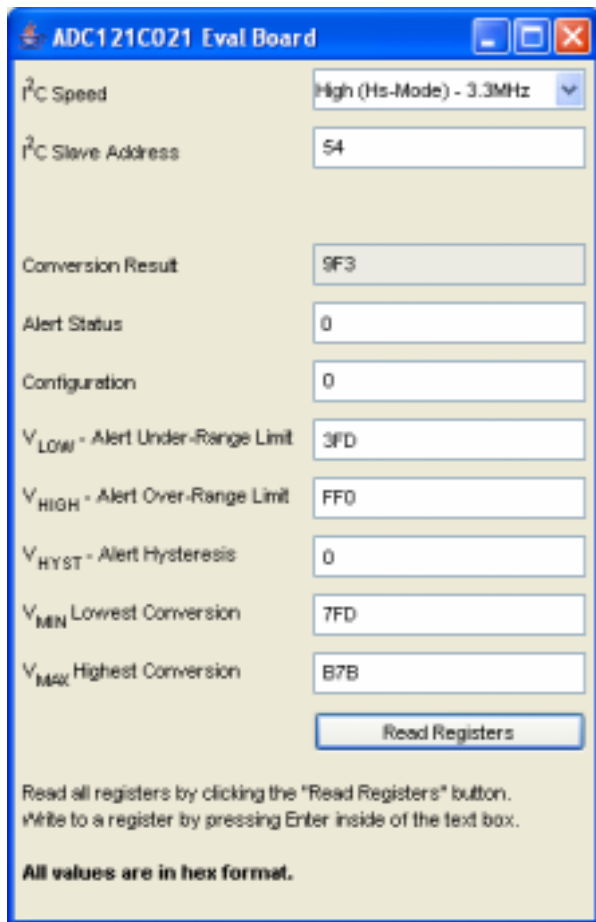

Figure 10: ADC121C021 Control Panel
5. Navigate to the ADC121C021 Eval Board Window. This is the Control Panel for the device (Figure 10).
7. Set the I²C Slave Address (Figure 10). The address will default to the correct address for the ADC121C021 (54hex). If evaluating the ADC121C027, the I²C address must be changed to reflect the state of the address selection pin (ADDR).
8. Press the "Read Registers" button. All of the register fields will update (Figure 10).
9. Configure the ADC's internal registers. The Alert function and Automatic Conversion Mode are setup through the Configuration register. After making changes to a register value, press the Enter key to write the register (Figure 10).